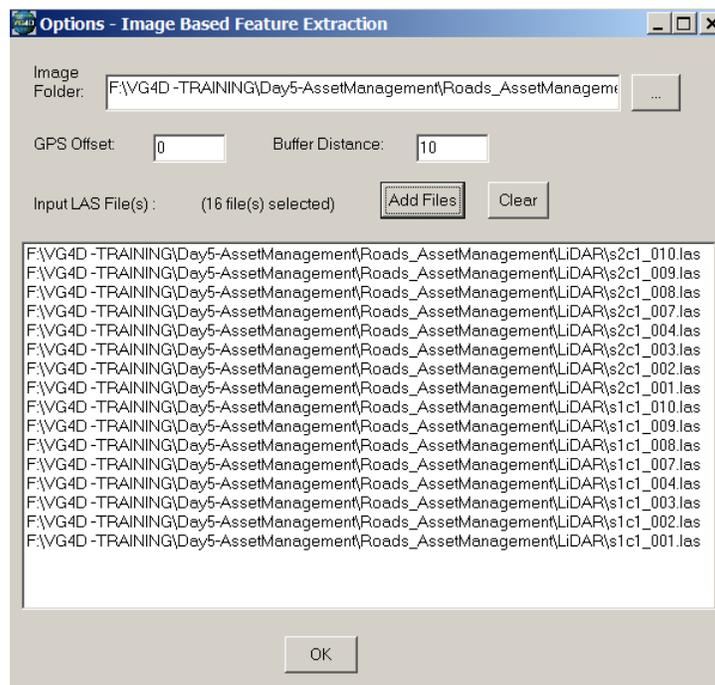

Figure 86: Data imported for Image Based Feature Extraction
- The imported files would be visible in the dialog box as seen in figure 86